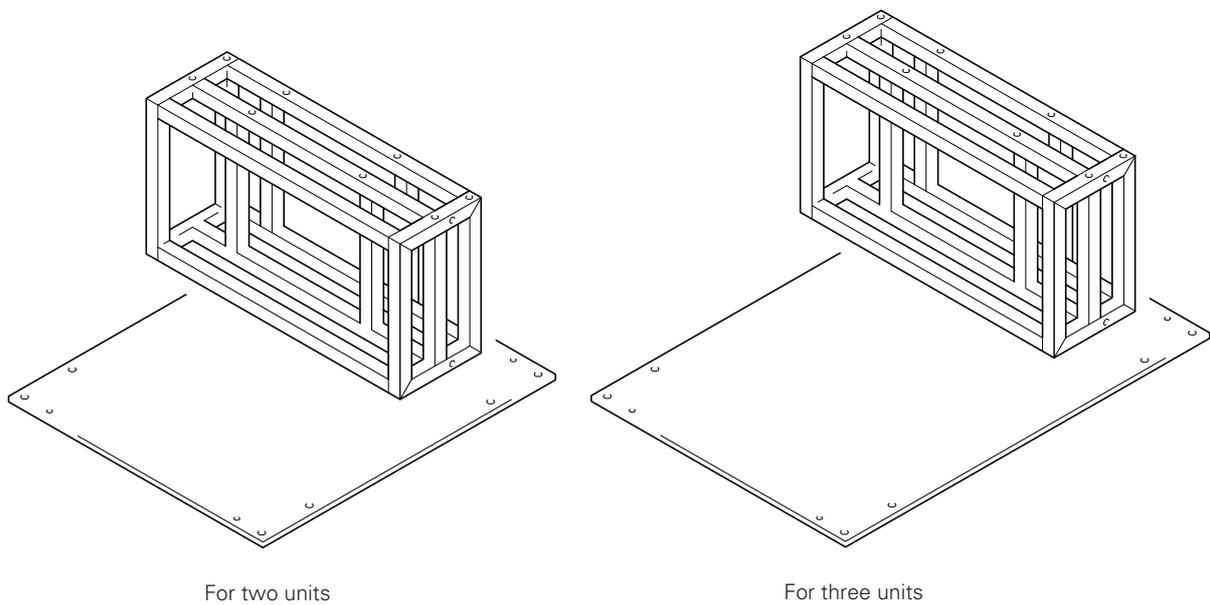

Figure 4.11.5-1)
When installing the multiple installation fixtures on the floor, make available the cradles and base plates as shown in figure 4.11.5-1.
When it is fixed to the floor, decide the A size and B size as shown in Figure 4.11.5-7, after taking the strength, etc. into consideration.
- Reference drawing of a cradle (Figure 4.11.5-2))
- Reference drawing of a base plate (Figure 4.11.5-3))